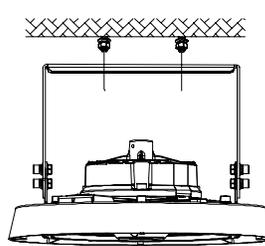
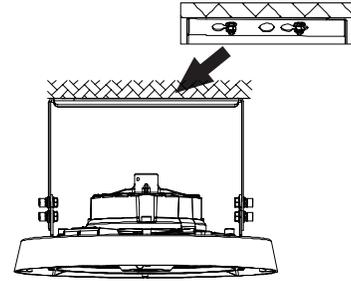

FIGURE 3
FIGURE 4
3. Align the bracket hole with screw hole (Figure 3) and push the fixture to one side (Figure 4) and fix it.